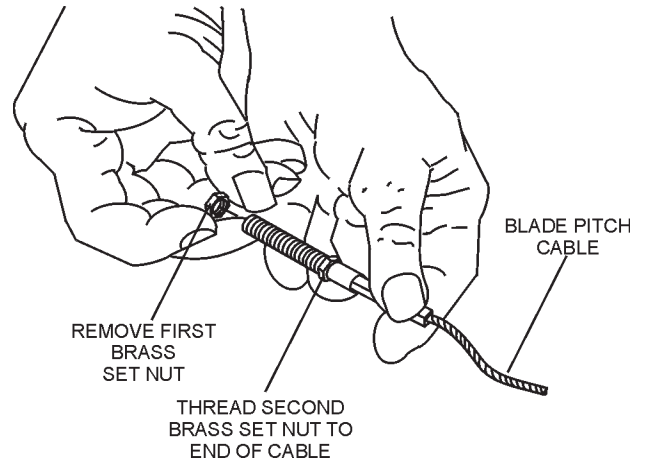

Figure 10. Blade Pitch Cable
2. Remove one brass set nut from the blade pitch cable end as shown in (Figure 10).